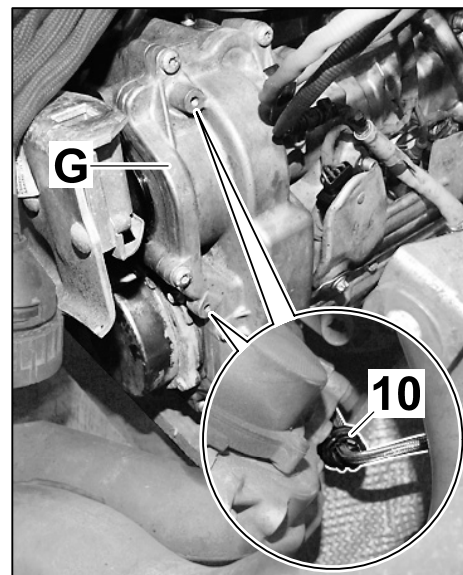

Figure 6
- 2.1 Fit holder ⇒ *Figure 6 -10-* for guiding the steel flexi-pipe into the valve cover ⇒ *Figure 6 -G-* at the right.